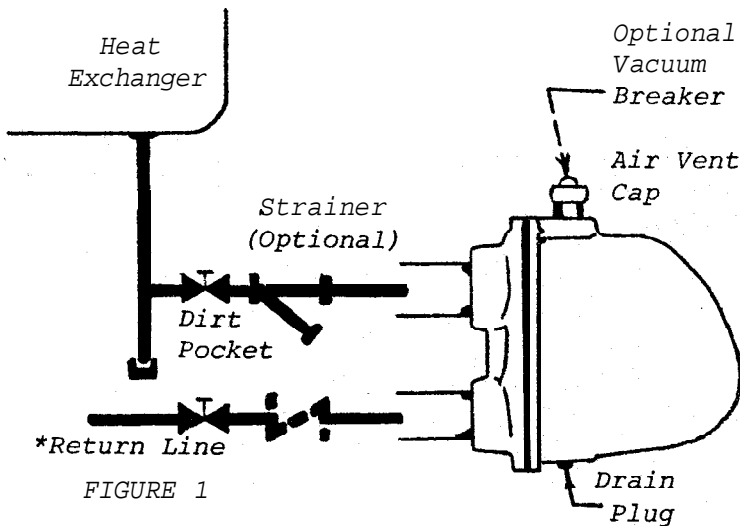

FIGURE 1
Install the trap so that its inlet connection is below the liquid level in the equipment to be drained. Figure 1 shows the recommended piping method.
- 3) Set the unit as shown in Figure 1, 2, or 3, with the flange resting on the floor or on a platform for support. Then install and tighten the inlet and discharge piping to secure the unit in its operating position. Use good piping practices to avoid excessive strain on the piping.
NOTE: USE GOOD PIPING PRACTICES. MAKE INLET PIPING AS SHORT AS POSSIBLE WITH A MINIMUM OF ELBOWS AND OTHER RESTRICTIONS. INSTALL A DIRT POCKET IN THE LINE AHEAD OF THE UNIT AS SHOWN IN FIGURES 1, 2, AND 3.